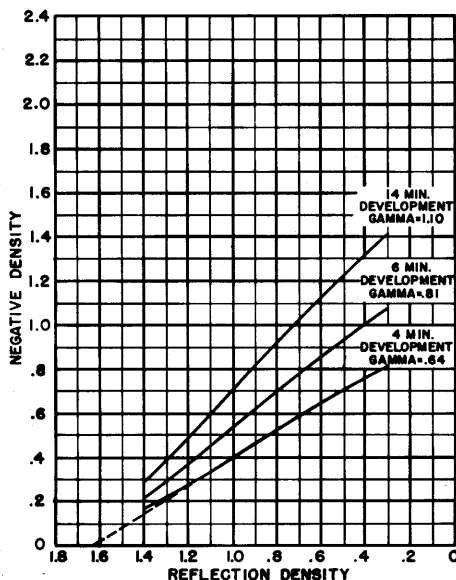

Fig. 11
- e. Draw a line through the series of dots representing each negative. The three lines resulting are the curves for the three development times. (A typical set of curves is shown in Figure 11.)
- f. Inspection of Figure 11 will show that these three curves have different degrees of steepness, the degree of steepness usually being referred to as gamma. It will be noted that as the development time is increased gamma also increases. In order to express gamma as a number these curves are interpreted in terms of the average steepness. To do this extend the straight line portion of each curve until it meets the base line of the graph sheet as shown on the 4 min. development curve.
ILLUSTRATION: Referring to the 4 min. curve in Figure 11 let us assume reflection density values of 1.62 (the point where the extended straight line meets the base) and 1.0 which is still on the straight line portion of the curve and yet sufficiently large to obtain an appreciable difference. The negative density corresponding to the reflection density value of 1.62 is 0 and the negative density corresponding to the reflection density of 1.0 is .4.
- e. Prepare three graphs for Red, Green, and Blue Records, as in Figure 11. Plot on the Red Record the H & D curve for each of the three Red Record negatives, as described on page 13. Do the same for the Green and Blue Record negatives.